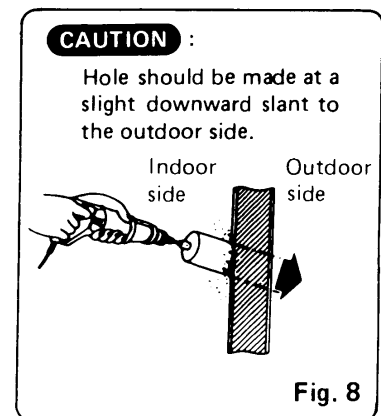

Fig. 8
- c) If tubing and wire pass through the wall, make hole on the wall. Fig. 8